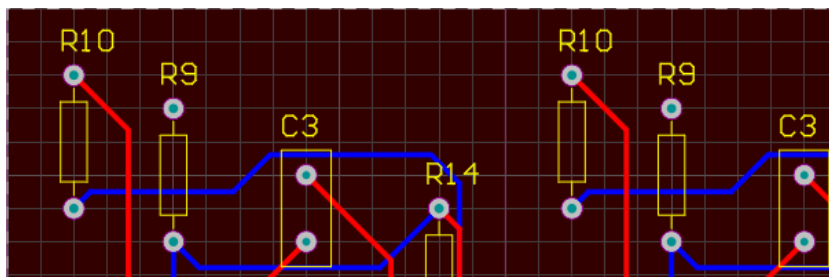

Figure 16. Logical Designators
33. Zoom back in to one of the rooms and notice the designators no longer have the room suffixes, as shown in Figure 16. This compact format uses the original Logical designators, which correspond to the designators in the Editor tab of the schematic, for the channel input components.